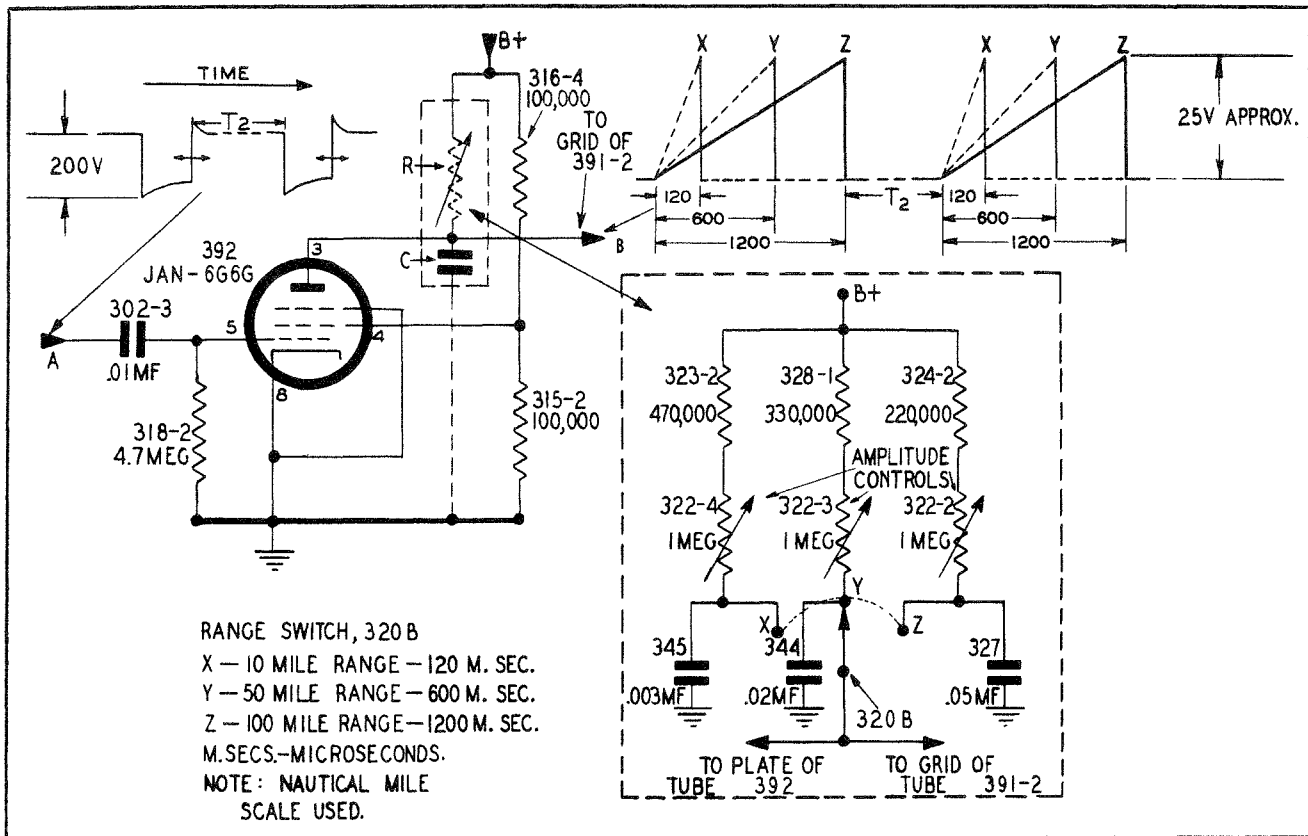

Figure 4-13. Discharge-Tube Circuit, Sectional Diagram
(See figure 4-13.)
1. In the indicator (see fig. 4-13), the resistance-capacitance network is represented by capacitor C and resistor R, which illustrate the network in simplified form. By means of a switch, any one of three RC combinations may be selected. By thus varying the resistance
and capacitance values, the rate of charging capacitor C may be increased or decreased. If the rate of charging is increased, then the output pulse of this circuit will appear as the dotted line in the graph in figure 4-13.